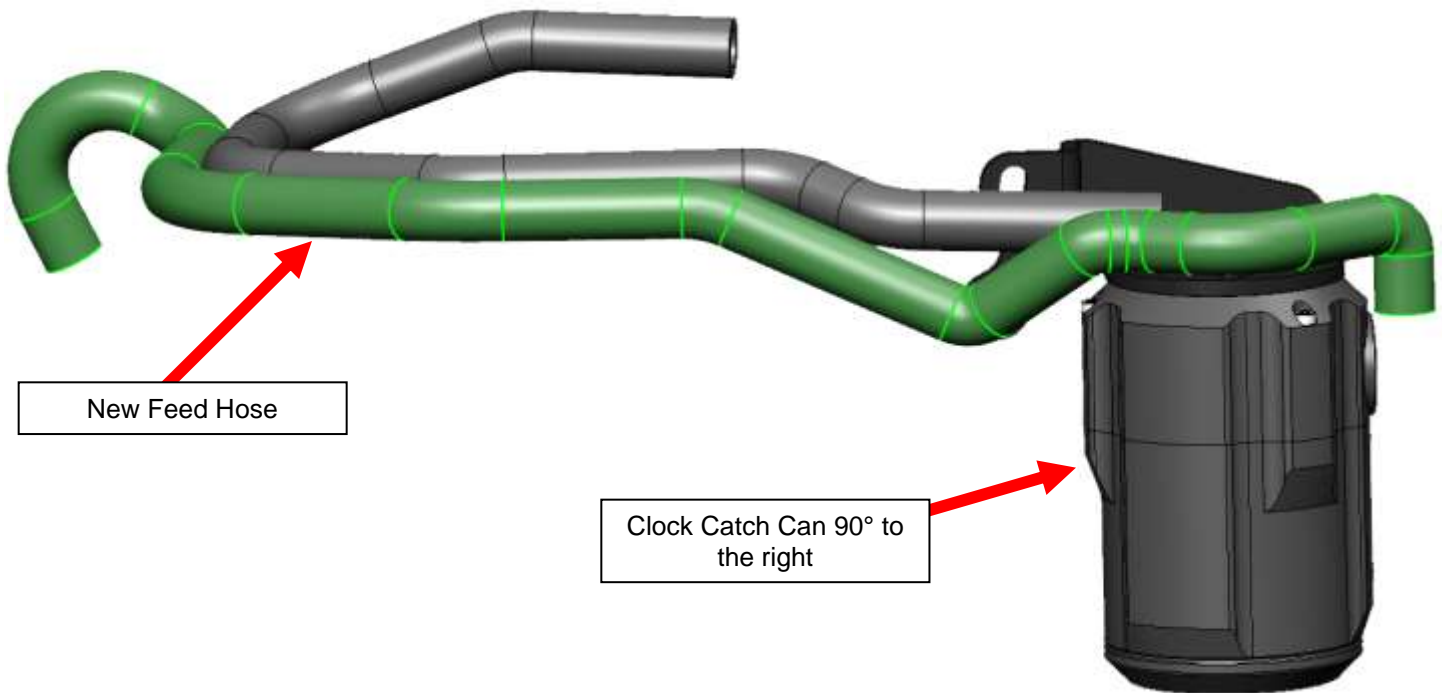

Figure 35
27. If you currently have a Z1 Oil Catch Can, it will need to be adjusted to clear the Charge Piping. Locate the Z1 Catch Can Feed Hose (#87) and the Catch Can Bracket (#88). Remove the Feed Hose and from the Catch Can and transfer the Catch Can to the new bracket. The Catch Can will need to be clocked 90° to the right. Reinstall the Catch Can into the vehicle. Install the new Feed Hose onto the Valve Cover and Catch Can as shown below. *Figure 35.*